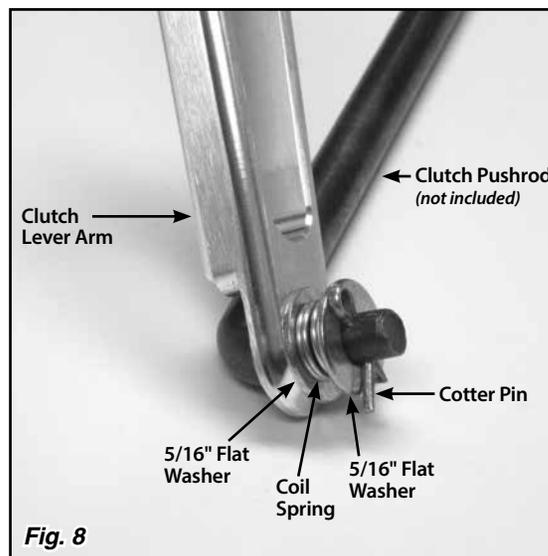
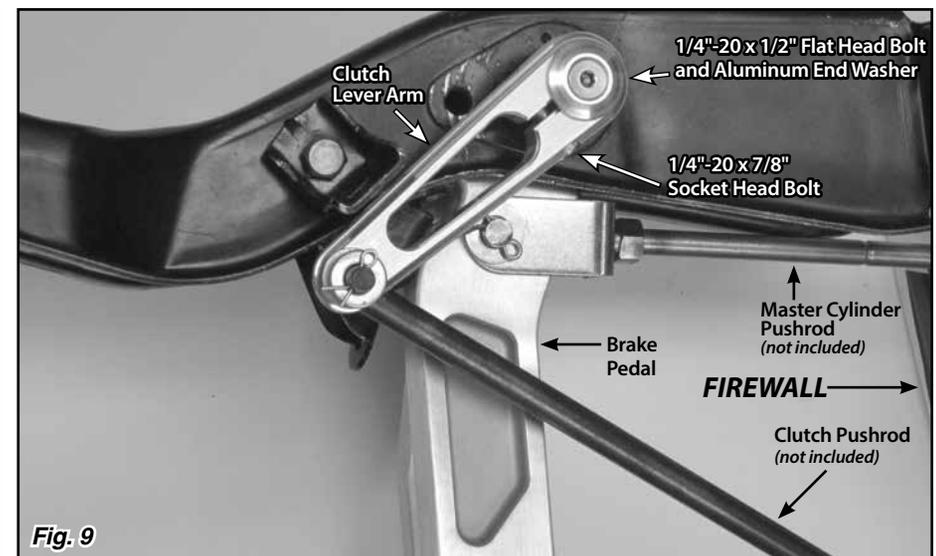

Fig. 8
Fig. 9
**Step 7:** Connect the clutch lever arm to the original clutch pushrod (not included) using a 5/16" flat washer, the coil spring, another 5/16" flat washer, and small cotter pin as shown in Fig. 8. Then install the clutch lever arm onto the right hand end of the splined shaft. Install the 1/4"-20 x 1/2" flat head bolt and aluminum end washer onto the right hand end of the splined shaft. Tighten the 1/4"-20 x 7/8" socket head bolt in the clutch lever arm to clamp it into place. Fig. 9